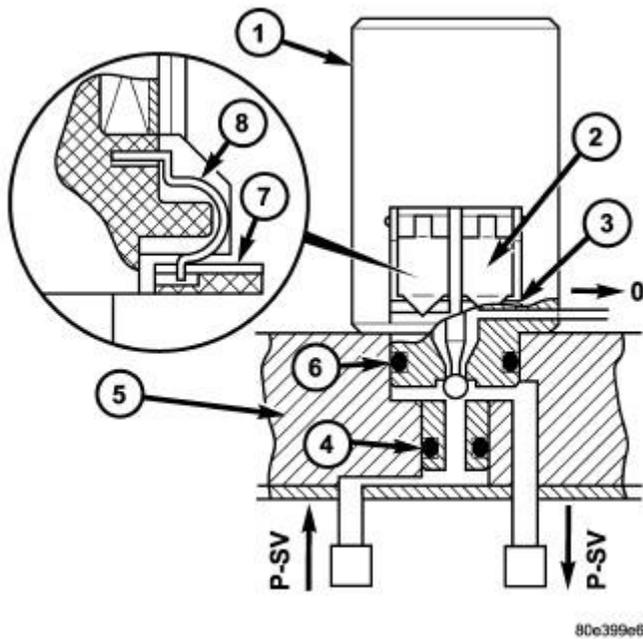

Fig. 204: Cutaway View Of Upshift/Downshift Solenoid Valve
If a solenoid valve (1) is actuated by the TCM, it opens and guides the control pressure (p-SV) to the assigned command valve. Refer to **Fig. 204**. The solenoid valve remains actuated and therefore open until the shifting process is complete. The shift pressure (p-SV) to the command valve is reduced to zero as soon as the power supply to the solenoid valve is interrupted.